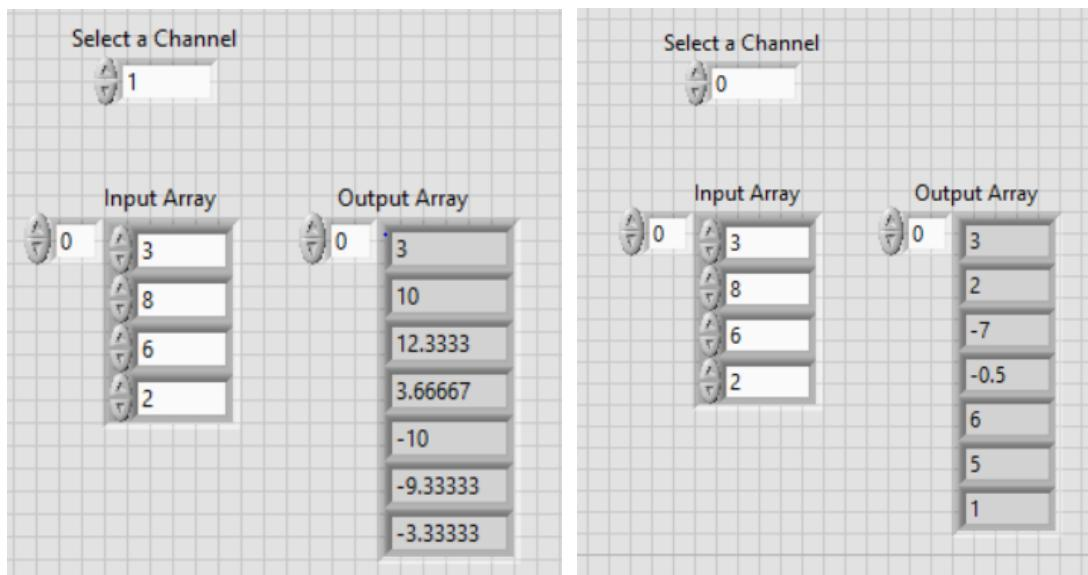

Fig. 3. Screenshots of Front Panel for two channel selections
- You are required to **attach** the **screenshots of the front panel** of your VI with **two different channel selections** to your preliminary work as shown in Fig. 3. You should also attach the **screenshot of your block diagram**.
- The **input should be given** as the **last 4 digits** of your **student ID** number. For example, if your ID is 1753862, the input should be [3 8 6 2] as shown in Fig. 3.